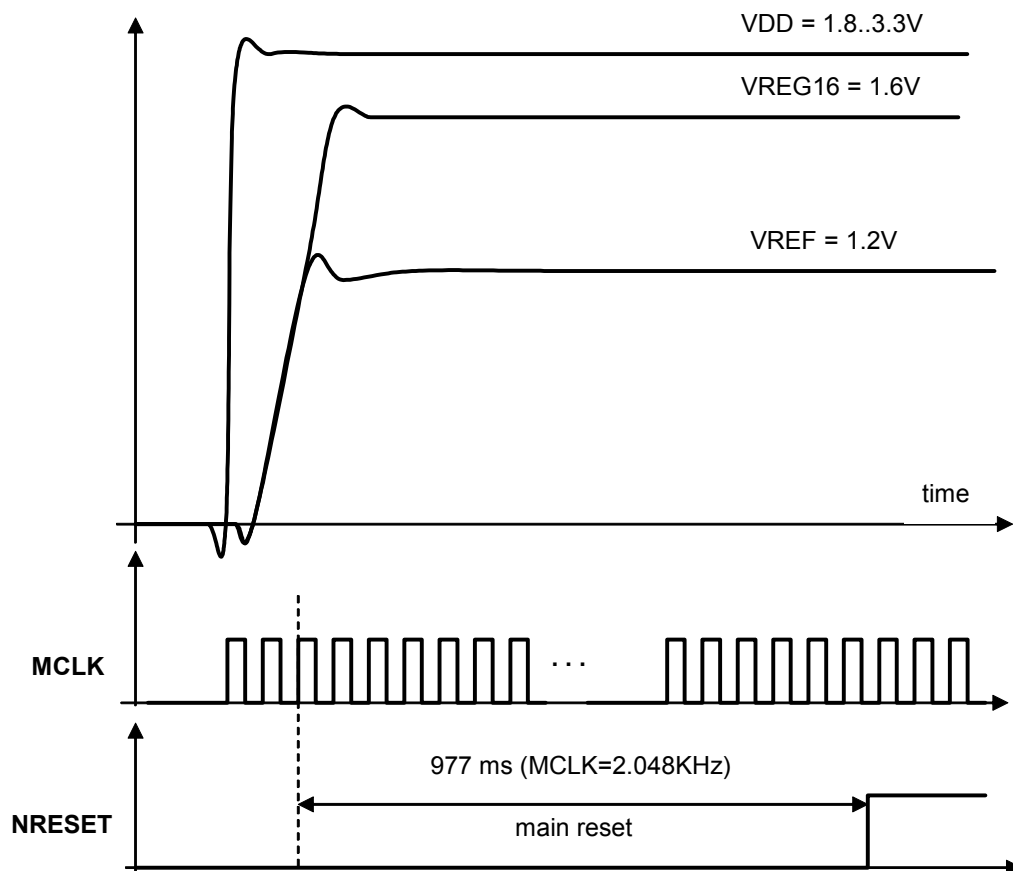

Figure 10: Startup sequence and NRESET signal after power-on.
The NRESET signal generated by the CODEC is used to initialize the various blocks in the device and guarantees a correct start-up of the circuit. The start-up sequence that is automatically carried out upon power-up of the device is listed below and illustrated in Figure 10.
- 1) NRESET is low (0V) when the device is not powered and remains low for a short time when VDD (upper curve in Figure 10) is applied. The low state sustains while VDD, VREG16, VREF are stabilizing.
- 1) Leave the NRESET pin not connected. In this case the CODEC will startup as described in figure 10.